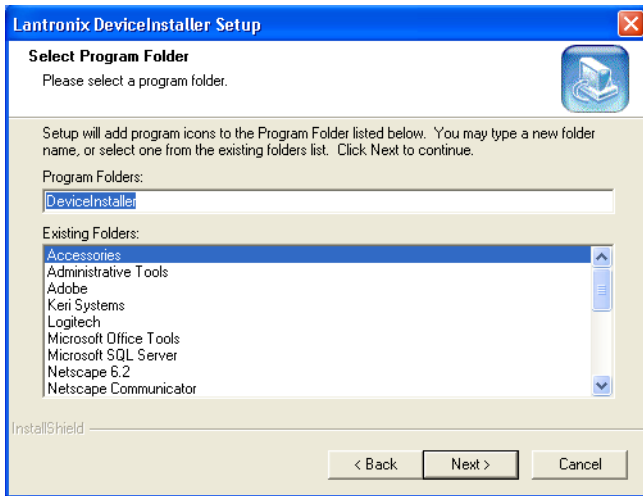

Figure 13: Select Program Folder
11. The Setup Type defaults to the Typical option. Click on the button. The Select Program Folder window appears (see Figure 13).